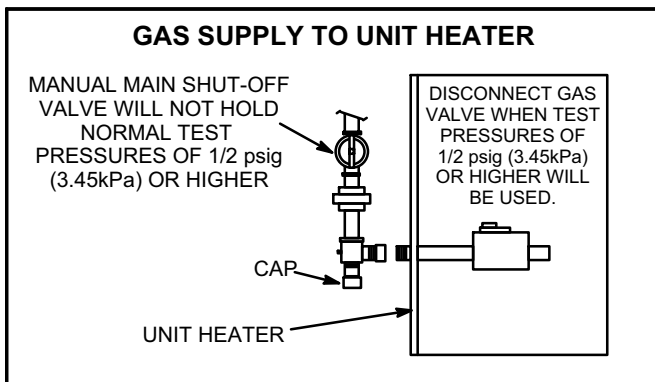

FIGURE 9
The heater and its individual shut off valve must be disconnected from the gas supply piping system during any pressure testing of that system at test pressures in excess of 1/2 psig (3.45kPa). See figure 9.
- 2 - After line pressure has been checked and adjusted, check regulator pressure. Correct manifold pressure is shown on the unit rating plate. See figures 9 and 10 for gas pressure adjustment screw location. A natural gas to LP/propane gas changeover kit is required to convert the unit in the field. Refer to installation instructions provided with changeover kit for conversion procedure.